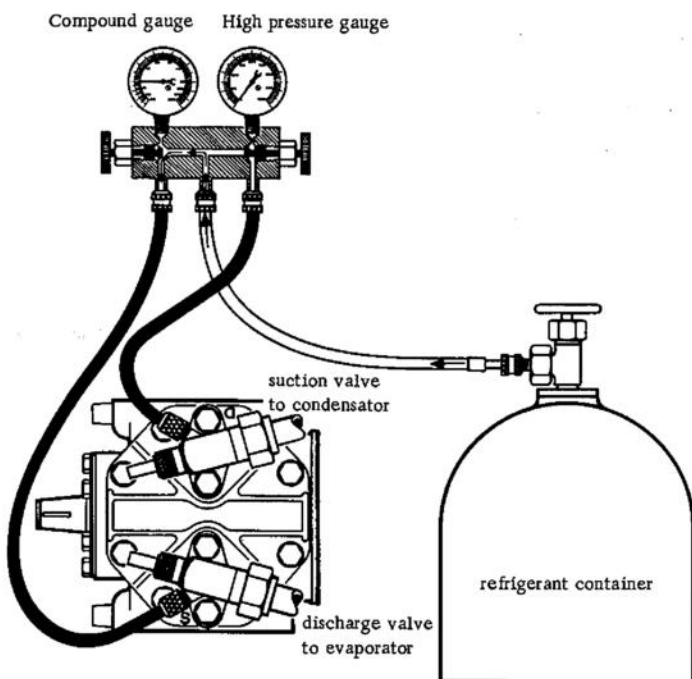

Fig. 10
2. Connect hoses of manifold gauge set to compressor (refer to Fig. 10).
1. Shut off vehicle engine, connect hoses of manifold gauge set to compressor (refer to Fig. 10). Connect refrigerant container to center hose.